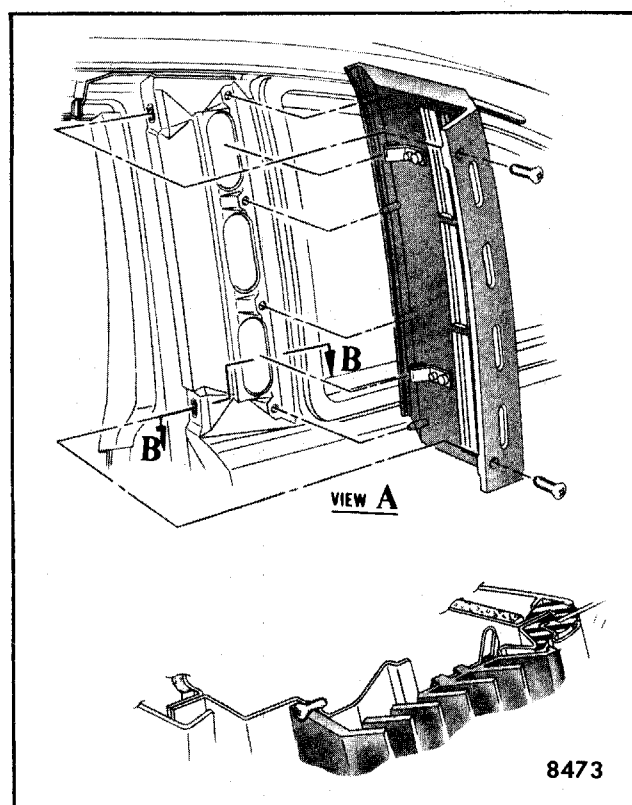

Fig. 4-18-Louver Assembly - "X-17 and Standard X-27" Styles
On "X-17, standard X-27" and "H-07" styles, air is exhausted through louvers in the body lock pillars (above belt). On the "X-69" style, the right and left roof sail panel louvers are dummy louvers. The "X-69" style utilizes conventional pressure relief valves in the rear body lock pillars (in door opening below belt). Figures 4-18 and 4-19 show typical louver installations.
1. Remove two louver to lock pillar attaching screws located in the door opening (Fig. 4-18).